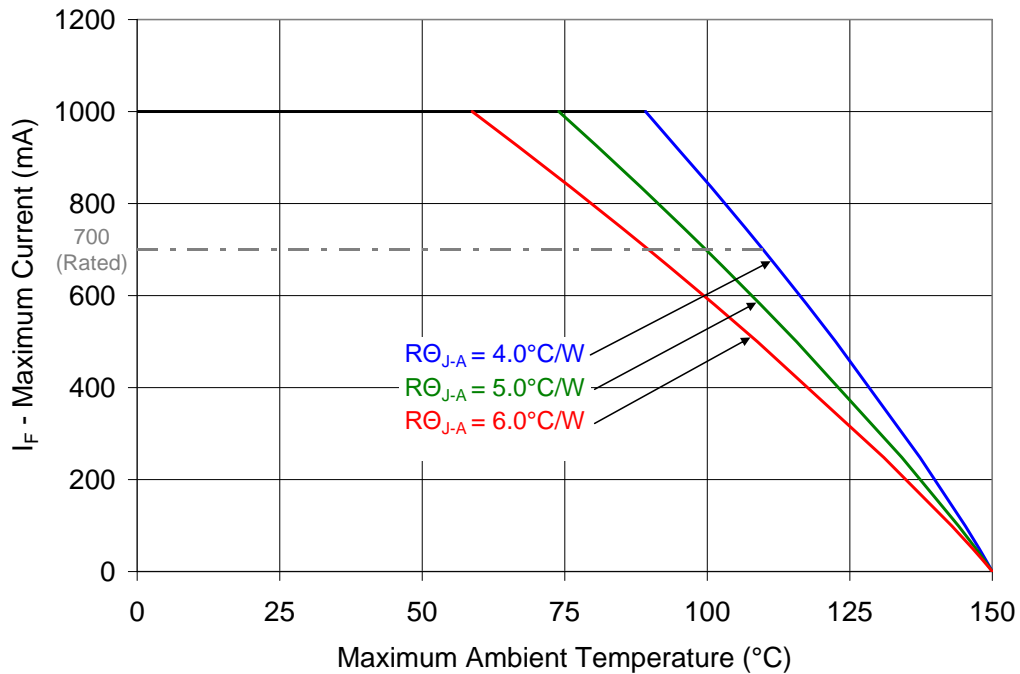

Figure 10: Maximum forward current vs. ambient temperature based on $T_{j(\text{MAX})} = 150^\circ\text{C}$.
- Maximum DC forward current (per die) is determined by the overall thermal resistance and ambient temperature. Follow the curves in Figure 10 for current derating.
Notes for Figure 10: